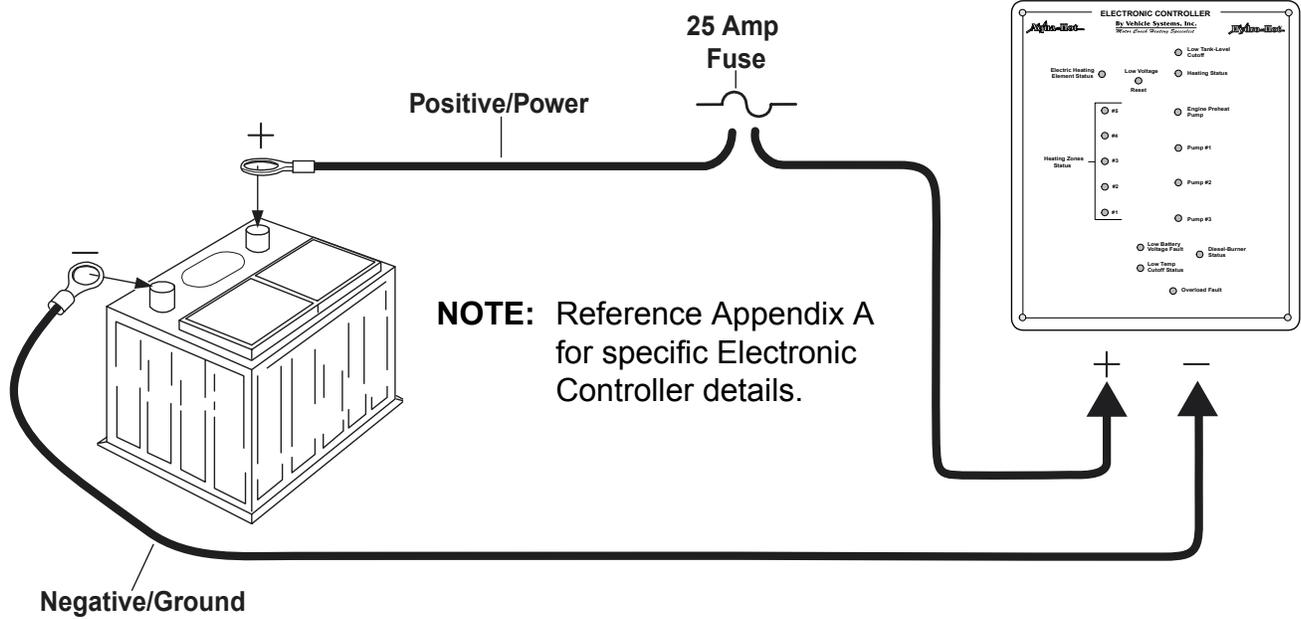

Figure 31
1. Run two 10 Gauge wires, Red for (+) and Black for (-), from the Vehicle's Batteries to the Aqua-Hot's Electronic Controller; reference Appendix A and Figure 31.
NOTE: Be sure to protect against accidental shorting (i.e., chassis shorting) by incorporating a 25-Amp rated In-Line Fuse into the Power wire at the Battery location; reference Figure 31.